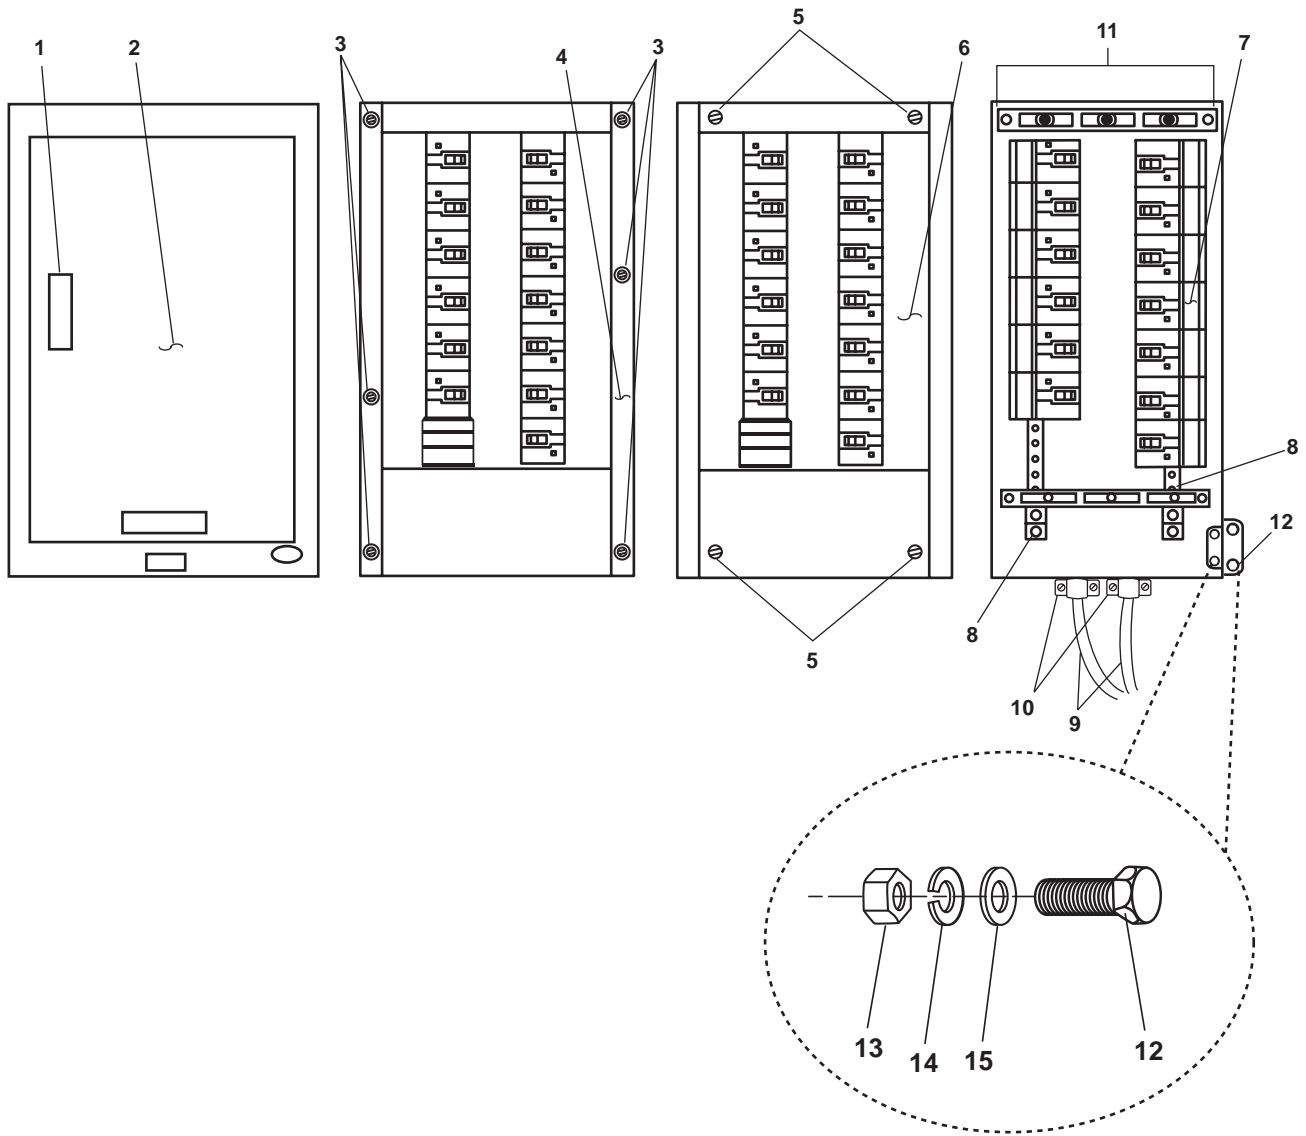

Figure 1. Power Distribution Panel Replacement (Typical)
1. Press the key latch (figure 1, item 1) and open the door (figure 1, item 2).
2. Loosen the six captive screws (figure 1, item 3) and remove the face panel (figure 1, item 4).
3. Remove the four screws (figure 1, item 5) from the inner panel (figure 1, item 6). Remove the inner panel.
4. Use a multimeter to check for voltage at the circuit breaker(s) (figure 1, item 7) and the bus bar(s) (figure 1, item 8). If voltage is present, ensure that the appropriate circuit breakers have been secured, locked out, and tagged out (FM 55-502). If no voltage is present, continue with this procedure.
5. Label and remove the electrical wiring (figure 1, item 9) to the circuit breakers (figure 1, item 7) and the bus bars (figure 1, item 8).
6. Loosen the strain relief clamps (figure 1, item 10) and remove the wiring (figure 1, item 9) from the power distribution panel (figure 1, item 11).
7. Remove the circuit breakers (figure 1, item 7) (WP 0114 00, volume 1).
8. Remove the four bolts (figure 1, item 12), the four hex nuts (figure 1, item 13), the four lockwashers (figure 1, item 14), and the four flat washers (figure 1, item 15) that secure the power distribution panel to the bulkhead. Discard the lockwashers.
9. Remove the power distribution panel (figure 1, item 11) from the bulkhead.
1. Install the power distribution panel (figure 1, item 11) on the bulkhead and secure it with the four bolts (figure 1, item 12), four hex nuts (figure 1, item 13), four new lockwashers (figure 1, item 14), and four flat washers (figure 1, item 15).
2. Install the circuit breakers (figure 1, item 7) (WP 0114 00, volume 1).
3. Route the wiring (figure 1, item 9) into the power distribution panel (figure 1, item 11) and secure it in place with the strain relief clamps (figure 1, item 10).